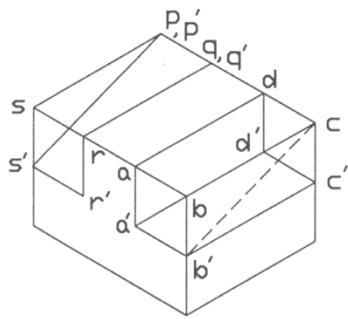

Figure 6.14: Shifting of Surfaces View
- (3) Next shifting of the necessary surfaces is made keeping conformity with the views. Surface a-b-c-d has been shifted to the new position a'-b'-c'-d' and surface p-q-r-s has been shifted to the new position p'-q'-r'-s' (Figure 6.14).